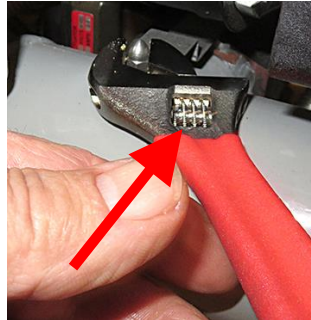

Figure 8
10. Remove the acorn nut attaching the drain clamp to the drain dump tube (see Figure 8).